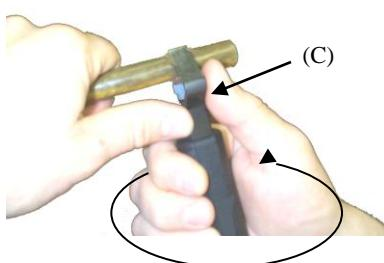

Fig. 4
Step 4. (Fig. 4) For a **longitudinal cut**, twist the tool handle 1/4 turn to the right and pull toward the end of cable.